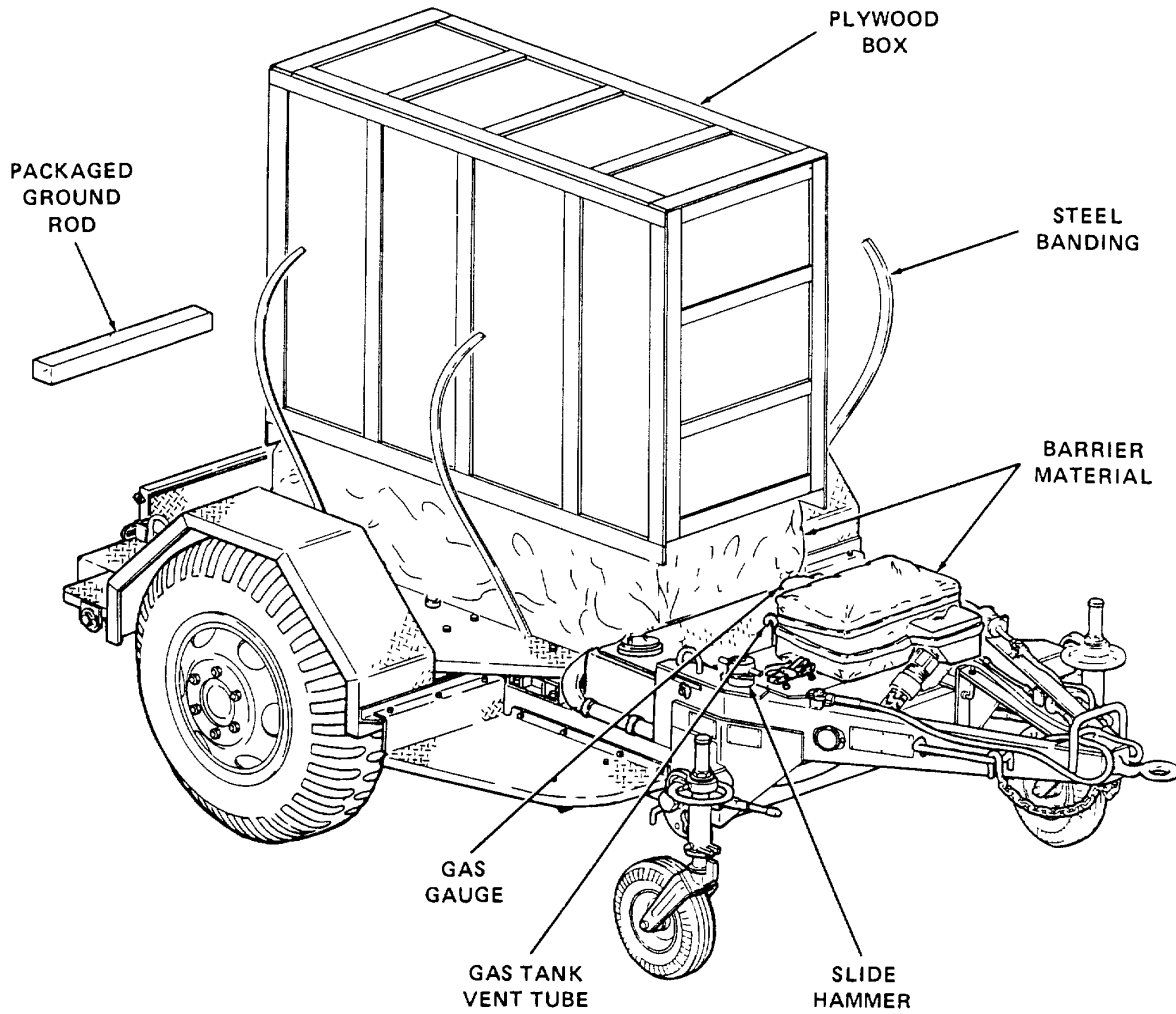

Figure 4-1. Unpacking Power Unit.
- a. Unpacking Power Unit. (See figure 4-1.). The generator set is packed in place on the trailer frame.